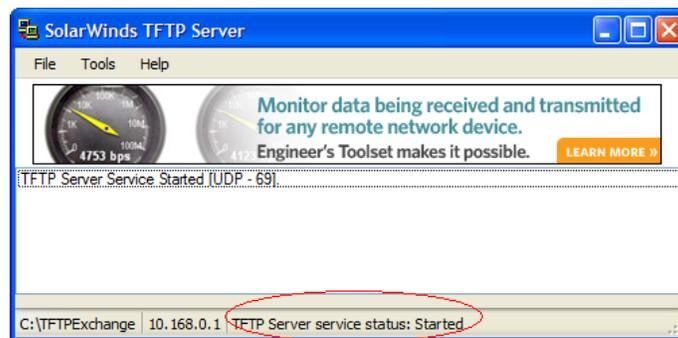

Figure 2-23: TFTP Server Status
10. Verify that the TFTP Server starts successfully, as shown in Figure 2-23.